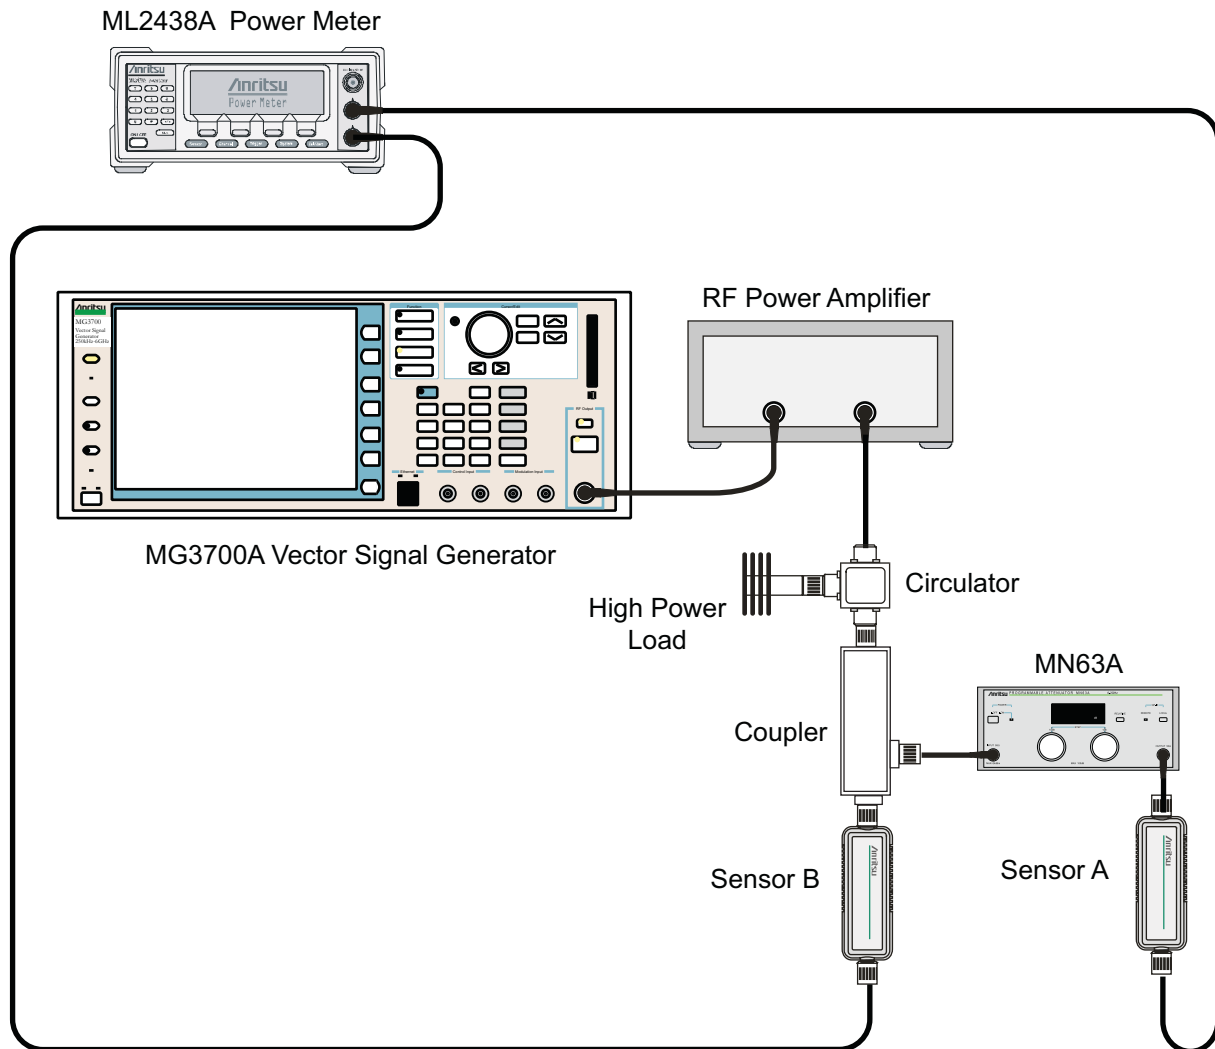

Figure 6-2. WCDMA/HSDPA Signal Analyzer, Characterization Setup
1. Connect the MG3700A, RF power amplifier, circulator, load, coupler, and programmable attenuator as shown in Figure 6-2.
3. Connect the power sensors to the power meter and then zero the sensors. Then connect the sensors as shown in Figure 6-2.
4. Press the **On/Off** key to turn on the MT8220T and wait until the measurement display appears. Then press the **Shift** key, and press the **Mode** (9) key to activate the mode selection menu.
6. Press the **Shift** key, the **Preset** (1) key, and then the Preset submenu key.